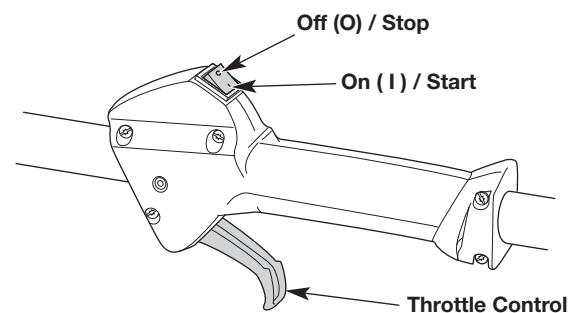

Fig. 7
- NOTE:** There is no need to turn the unit on. The On/Off switch is in the ON (I) position at all times (Fig. 7).
6. Squeeze the throttle control (Fig. 7) and pull the starter rope with a controlled and steady motion **5 times** (Fig. 9).
2. Press and hold the On/Off switch in the OFF (O) position until the engine comes to a complete stop (Fig. 7).